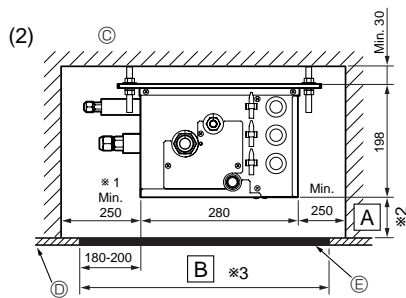
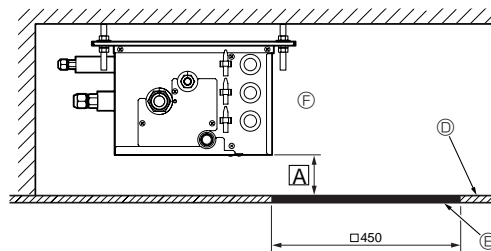

Fig.3-2
Fig.3-3
(2) Side View (Fig. 3-2, Fig. 3-3)
In the case of "□450", prepare a maintenance hole at a PCB side as it is shown in Fig. 3-3, and "Min. 300 mm" is needed as distance Ⓐ.